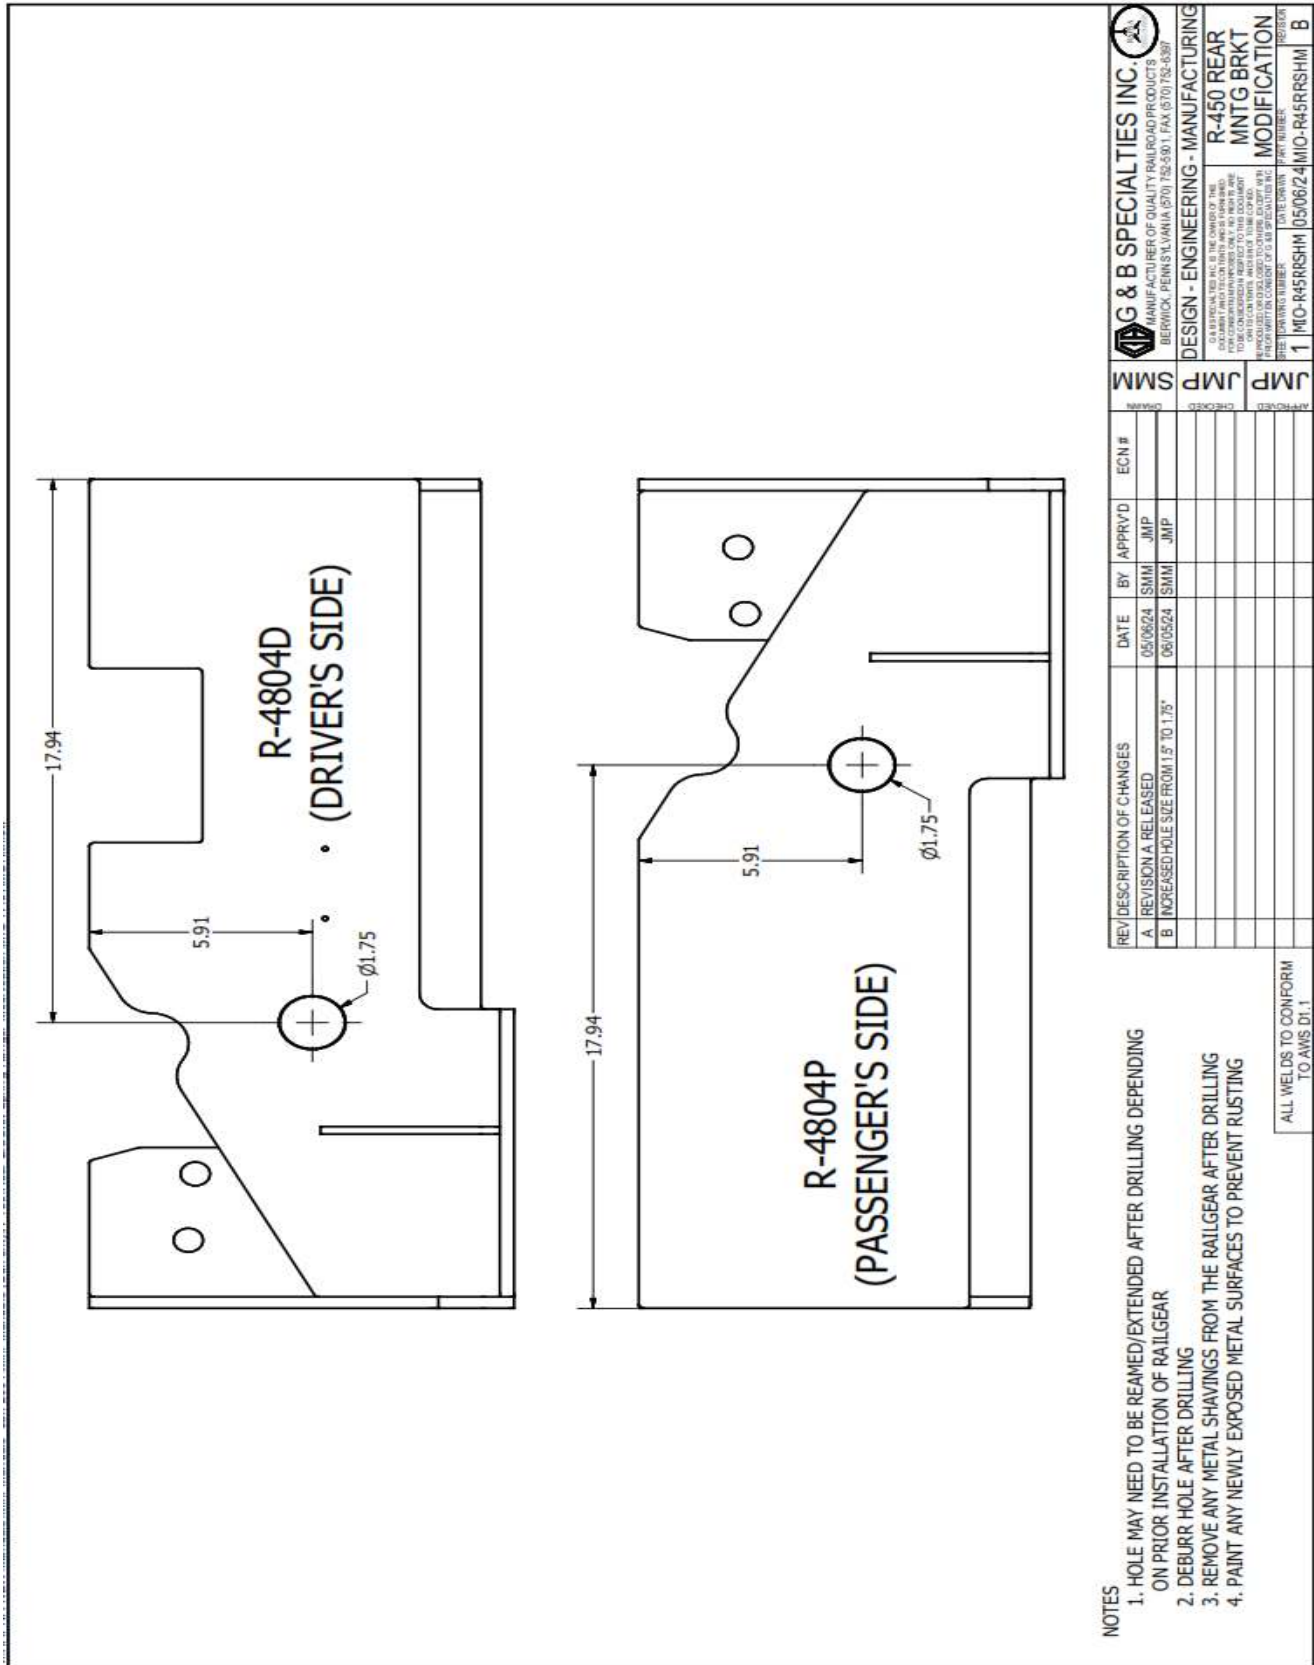

Figure 1: Bracket Modification
2. From the rear of the bracket, measure 17.94" in, and from the top of the bracket measure 5.91" down. Place a mark where these two dimensions intersect. (Refer to Figure 1)